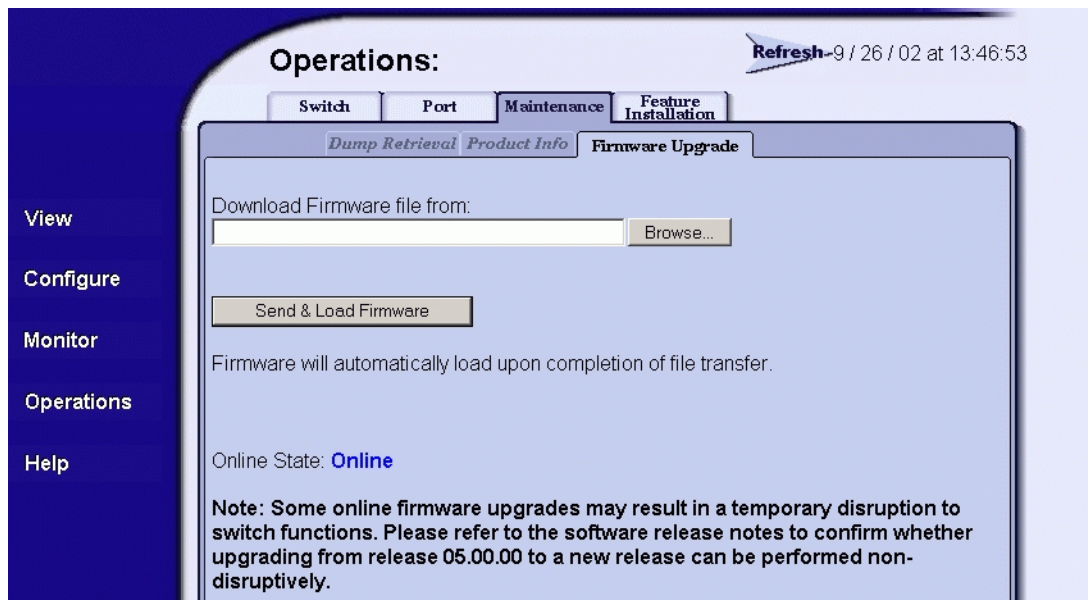

Figure 4-31 Operations Panel (Maintenance Page with Firmware Upgrade Tab)
2. Click the *Maintenance* and *Firmware Upgrade* tabs. The *Maintenance* page displays with the *Firmware Upgrade* tab selected (Figure 4-31).